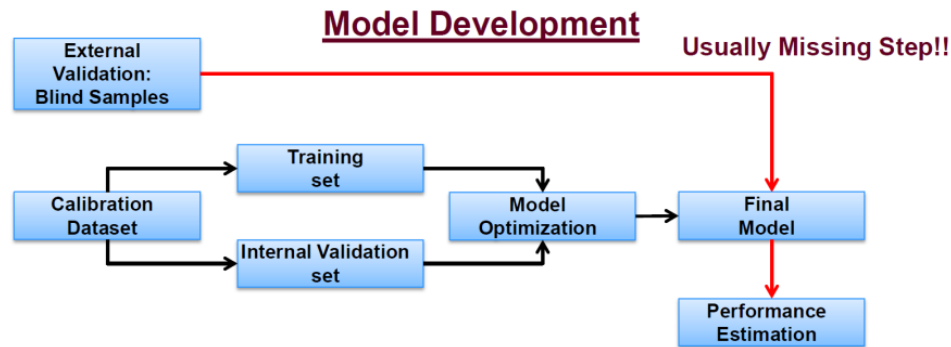

Figure 6. Multivariate Prediction Model Training Workflow.
4. Train a more general model: students will train a new model accordingly with the workflow presented in Fig. 6. The Blind Samples will be the 30% of the complete dataset.
It is time to use the complete dataset obtained after the preprocessing. As we are increasing the amount of data, you might adopt the workflow presented in Fig. 6. You might want to split the dataset into train-set and test-set. Fortunately, sklearn package provides tools for doing that. A raw code for doing this is presented below: